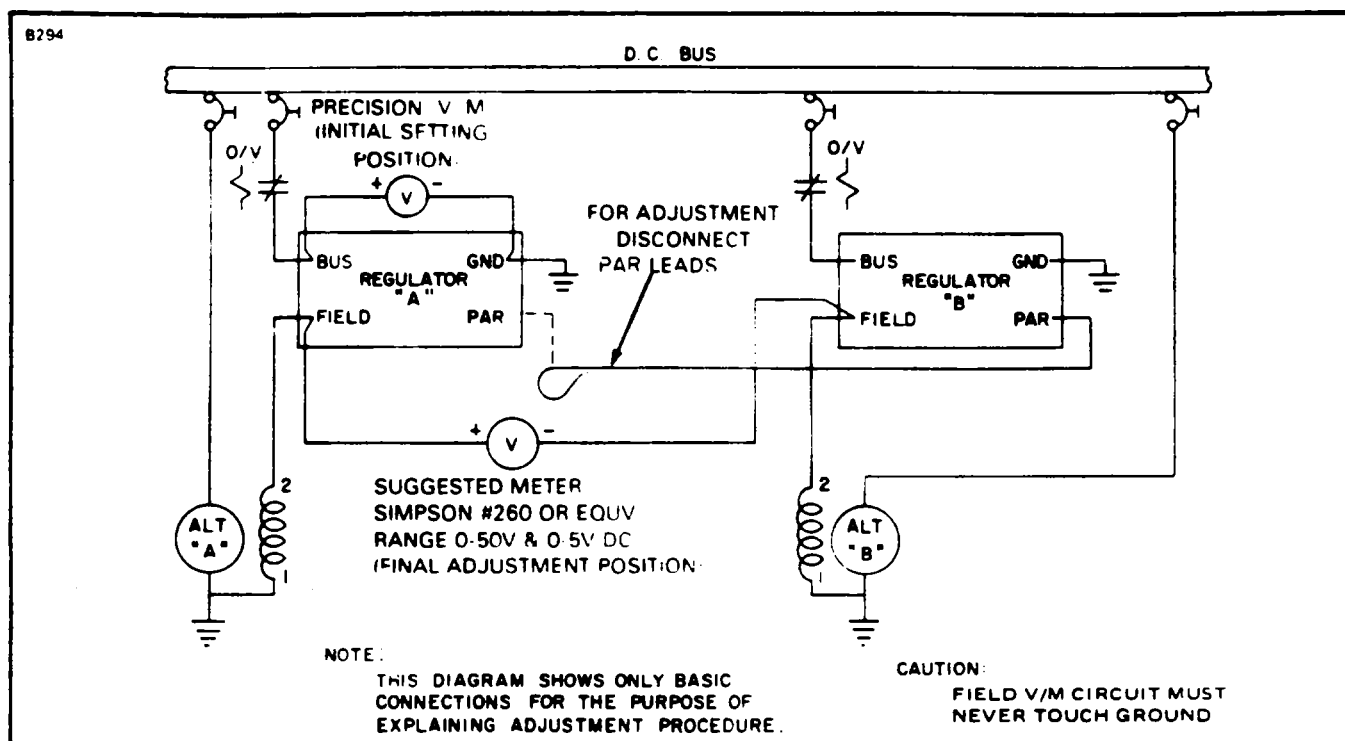

Figure 24-18. Adjusting Regulator (Lamar)
1. These regulators are normally used in parallel alternator systems of multi-engine aircraft. Their final adjustment should be made in actual operation in the aircraft system with test equipment connected as shown in Figure 24-18. The balance adjustment is made while operating only one engine, either left or right. The engine to be operated must be selected so as to permit the technician a completely safe access to both of the regulators, so that they may be adjusted while the engine is operating without danger. We shall designate the engine selected to be operated as "RIGHT" and the inoperative engine as "LEFT" for purposes of discussion.